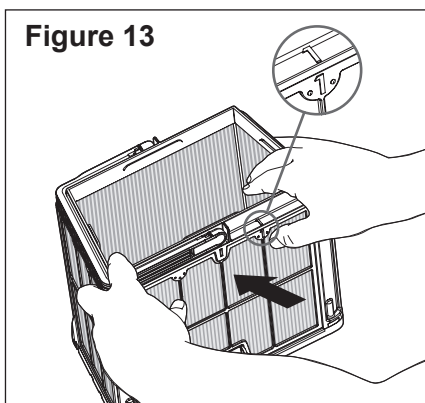

Figure 13
1. Each filter screen and side of the filter basket has a number stamped onto it. Filter screens will only fit into the matching side of the basket. See **Figure 13**.
2. Using your thumbs, firmly press the top of screen 1 inwards to detach the screen from the basket. See **Figure 13**.